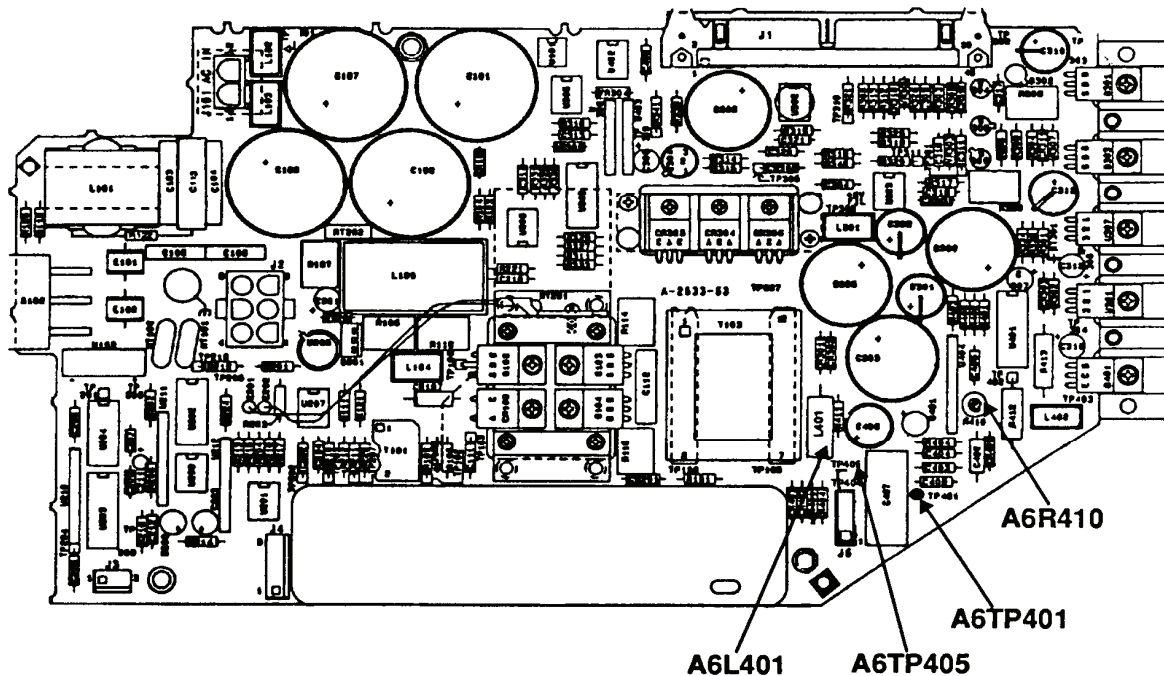

Figure 6. Power supply location sheet.
- (2) Remove A6 power supply cover.
- (3) Set multimeter to measure 1000V dc.
- (4) Connect multimeter **INPUT HI** to A6TP405 (fig. 6) and **INPUT LO** to A6TP401 (fig. 6).
- (5) Record dc voltage marked on A6A1 HV module (located at TI top).
- (6) Note the value of inductor A6L401 (fig. 6). If A6L401 (fig. 6) is 10 mH, perform (7) and (8) below. If A6L401 (fig. 6) is 20 mH, perform (7) and (9) below.
- (7) Press TI **LINE** switch to **ON**.
Perform (8) below ONLY if A6L401 (fig. 6) is 10 mH.
(8) If multimeter does not indicate a dc voltage equal to 2 V above the dc voltage recorded in (5) above, perform **b** (1) below.
Perform (9) below ONLY if A6L401 (fig. 6) is 20 mH.
(9) If multimeter does not indicate a dc voltage equal to the dc voltage recorded in (5) above, perform **b** (2) below.
(10) Press TI LINE switch to **OFF**.
(1) Adjust A6R410 (fig. 6) for a dc voltage equal to 2 V above the dc voltage recorded in (5) above (R).
(2) Adjust A6R410 (fig. 6) for a dc voltage equal to the dc voltage recorded in (5) above (R).